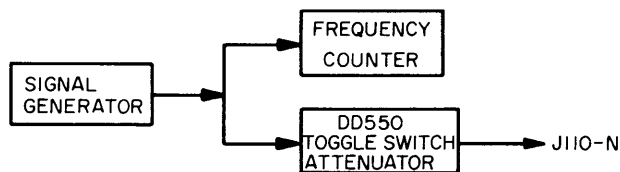

Figure 5-7. Step Generator Z110, Test Setup
(1) Remove comb filters Z102 and Z103 from Exciter. Set frequency selector switches to 03.0000 MHz.
(2) Connect oscilloscope between collector of transistor Q1 and ground. Adjust potentiometer R1 for maximum level.
(3) Connect oscilloscope at junction of diode CR1 and transformer T1. Adjust transformer T1 for maximum level.
(4) Connect oscilloscope between collector of transistor Q1. Adjust potentiometer R1 for a level of 2 volts peak-to-peak.
(5) Connect oscilloscope between junction of diodes CR1/CR2 and ground. Adjust potentiometer R7 for minimum level.
(6) Connect test equipment as shown in figure 5-7.
(1) Remove comb filters Z102 and Z103 from Exciter and set frequency selector switches on front panel to 28.0000 MHz.
(2) On Z113, connect oscilloscope at collector of transistor Q14. Adjust potentiometer R78 for maximum level.
(3) Connect oscilloscope at junction of transformer T11 and diode CR1. Adjust transformer T11 for maximum level.
(4) Connect oscilloscope at junction of capacitor C104 and resistor R88. Adjust variable capacitor C101 and resistor R84 alternately until minimum level is obtained.
(5) Connect oscilloscope at collector of transistor Q14. Adjust potentiometer R78 for 2 volts peak to peak.
(6) Connect test equipment as shown in figure 5-7. Set signal generator frequency to 1.6 MHz. Set output level to 100 mv peak-to-peak.
(7) Short secondary of transformer T13. Place Millivac model MV-28B millivolt meter at junction of resistor R88 and capacitor C104.
(8) Adjust transformer T12 for maximum level indication on meter.
(9) Remove short and adjust transformer T13 for dip or minimum indication on meter.
(10) Repeat steps 7 through 9, using transformer T15 and Q15 collector for step 7; transformer T14 for step 8; and transformer T15 for step 9.
(11) Repeat steps 7 through 9, using transformer T17 and Q16 collector for step 7; transformer T16 for step 8; and transformer T17 for step 9.
(12) Place scope at J113-N and adjust transformer T18 for maximum level indication.
(13) Vary frequency of signal generator for 1.4 MHz to 1.8 MHz. Output level on oscilloscope shall be approximately 0.1 volt peak-to-peak minimum at frequency of 10.6 MHz to 10.2 MHz, correspondingly.
(14) Adjust signal generator to 1.075 MHz with output level set at 0.4 volt peak-to-peak and change frequency selector switches on front panel to 23.0000 MHz.
(15) Repeat steps 7 through 9, using transformer T20 and junction of resistor R87 and capacitor C103 for step 7; transformer T19 for step 8; and transformer T20 for step 9.
(16) Repeat steps 7 through 9, using transformer T22 and Q18 collector for step 7; transformer T21 for step 8; and transformer T22 for step 9.